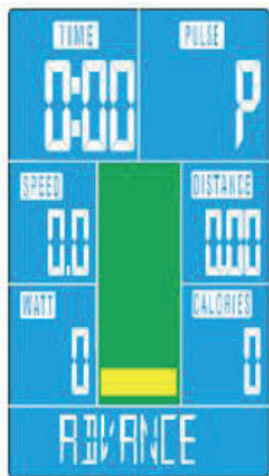

Fig. 7
1. Choose the program (Advance) and confirm the choice with the MODE button (see fig. 7).